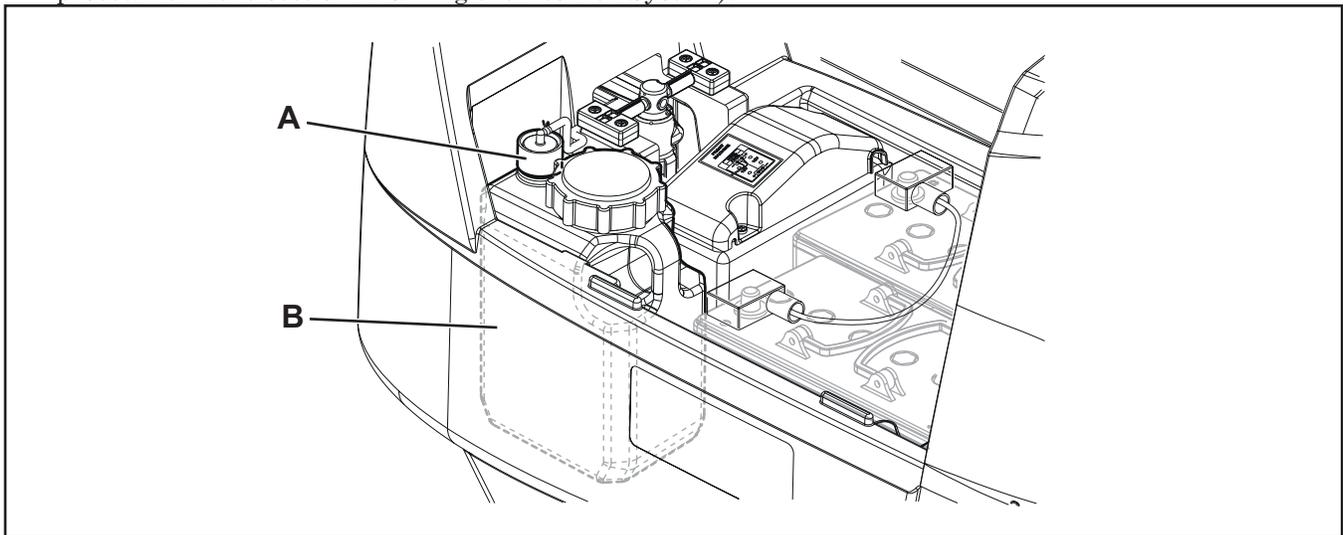

Figure 6
6. Unscrew the cap (A) (Figure 6) from the detergent tank (B).
9. Replace the detergent tank (B) as shown in the figure, then refit the cap (A).